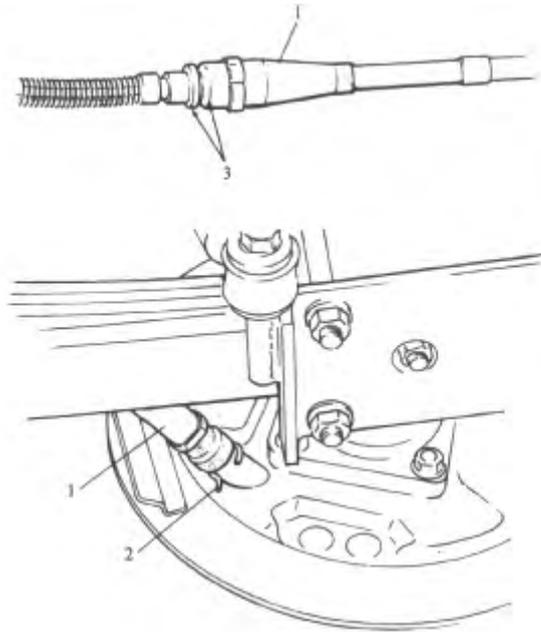

FIG 13-34: 1-brake cable;2-applying sealant
(9) Apply sealant to surface of parking brake cable to mate with brake back plate. After install brake cable through brake back plate, fix it with clamp. ( FIG13-34 )